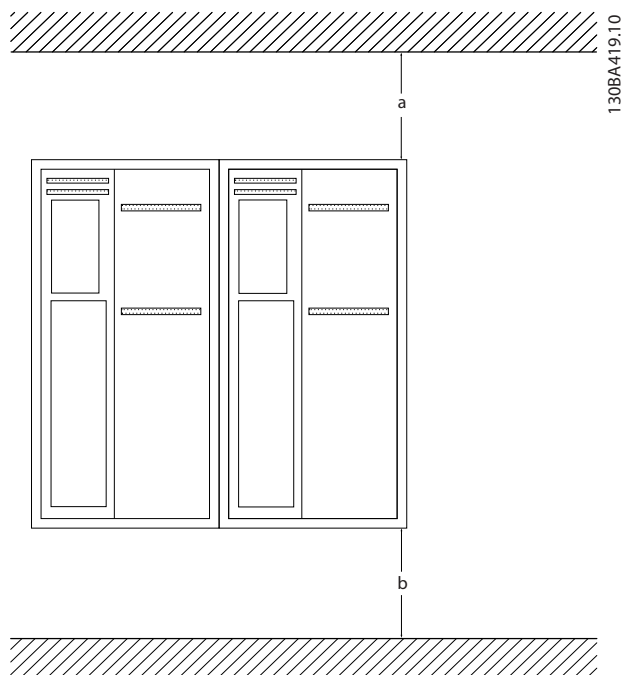

Figure 2.1 Top and Bottom Cooling Clearance
- Top and bottom clearance for air cooling must be provided. Generally, 100–225 mm (4–10 in) is required. See *Figure 2.1* for clearance requirements